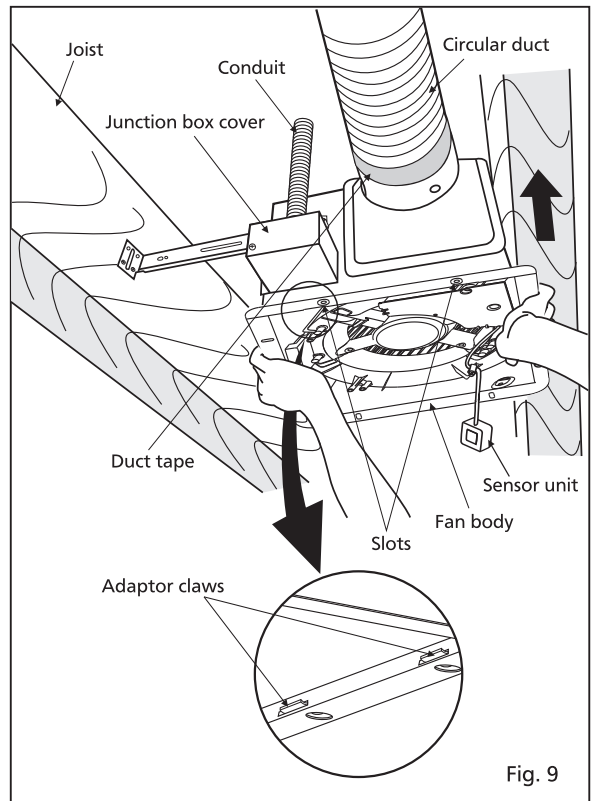

Fig. 9
6. Insert the fan body into joists. (Fig. 9)